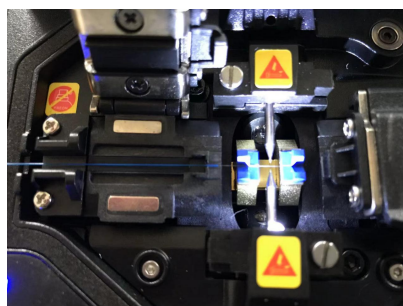

Figure 5.1
1. Place the fiber with good enface into the V groove to remove the pollution, shown in figure 5.1.